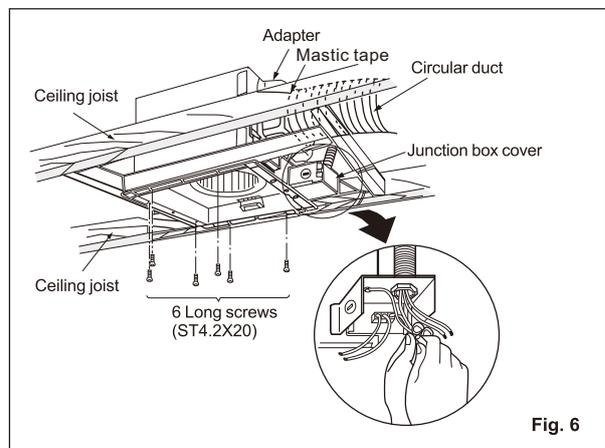

Fig. 6
3. Insert the circular duct (6 inches) to the adapter, Seal duct to duct adapter with mastic or mastic tape. Remove the junction box cover and secure conduit to junction box knockout hole. (7/8 inch) (Fig. 6)